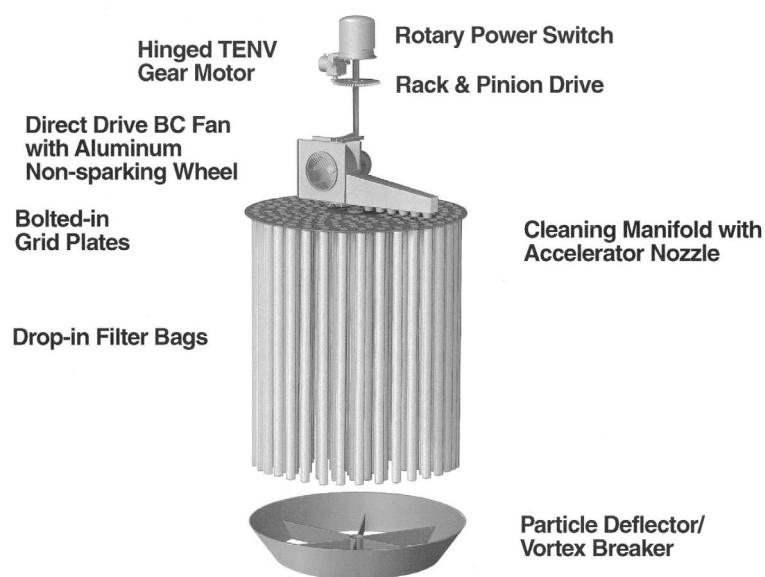

FIGURE 6-14. Reverse air dust collector
6.3.10 Reverse Air Filters. Accumulated dust is removed by isolating one section or compartment of the baghouse from use long enough to send airflow from a smaller cleaning fan to the clean side (in a reverse direction) through the filter media. This dislodges the dust from the surface and the heavier particles fall to the hopper for final removal. Typically, collector design must take into account the fact that one compartment will be temporarily offline and air-to-media ratios must reflect such a consideration. Reverse air cleaning methods are gentler on bag media, which can add to bag longevity (see Figure 6-14).